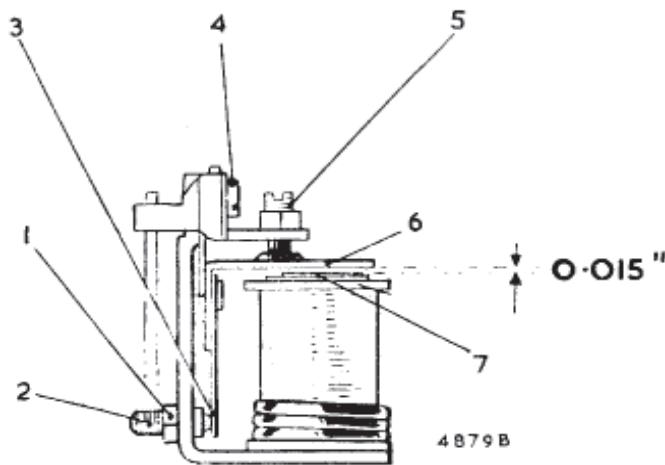

Fig. N.7
Slacken the voltage adjusting screw locknut (1), Fig. N.7) and turn the screw in a clockwise direction to raise the setting or in an anti-clockwise direction to lower the setting. Turn the screw only a fraction of a turn at a time and then tighten the locknut. Repeat as above until the correct setting is obtained.
The mechanical or air gap settings of the regulator shown in Fig. N.7 are accurately adjusted before leaving the Works and, provided that the armature carrying the moving contact is not removed, these settings must not be tampered with. If, however, the armature has been removed, the regulator will have to be reset. To do this proceed as follows.